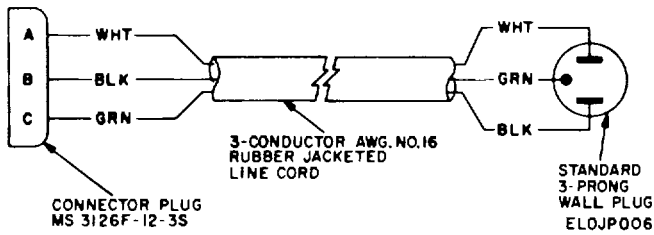

Figure 4-1. Power cable fabrication diagram.
- (1) Group Delay Test Set, Comtech Model No. STS-701
- (2) Fabricated power cable, per Figure 4-1.